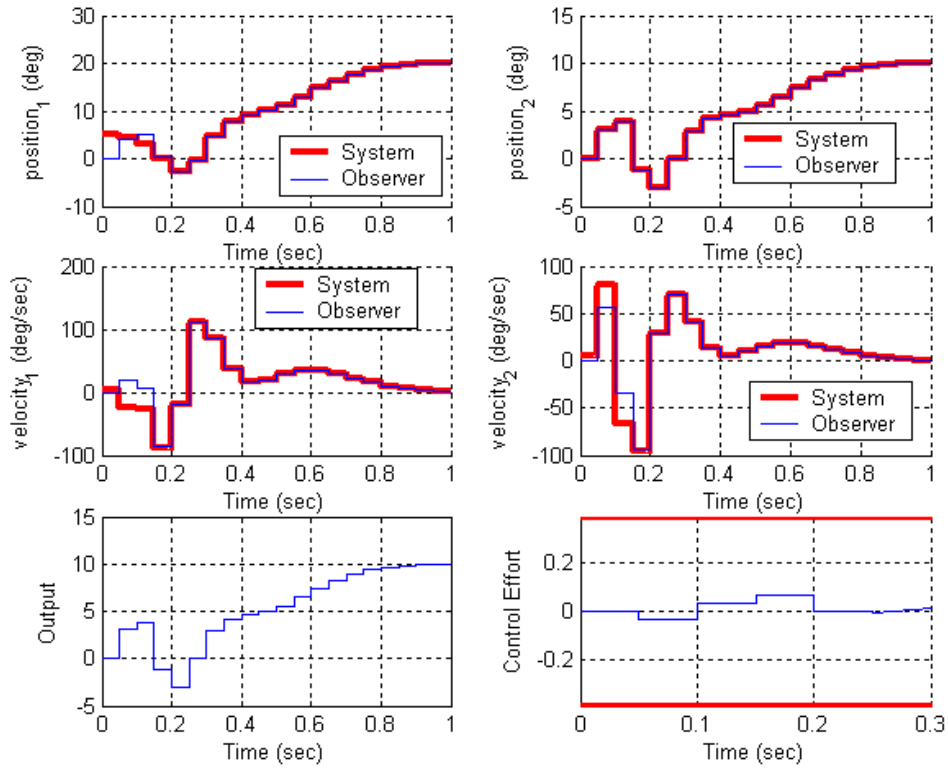

Figure 11. Results for problem 4c.
c) Same conditions as in **b**, but assume the output is the position of the second disk. For a 10 degree step input you should get the graph shown in Figure 11. Turn in your plot.